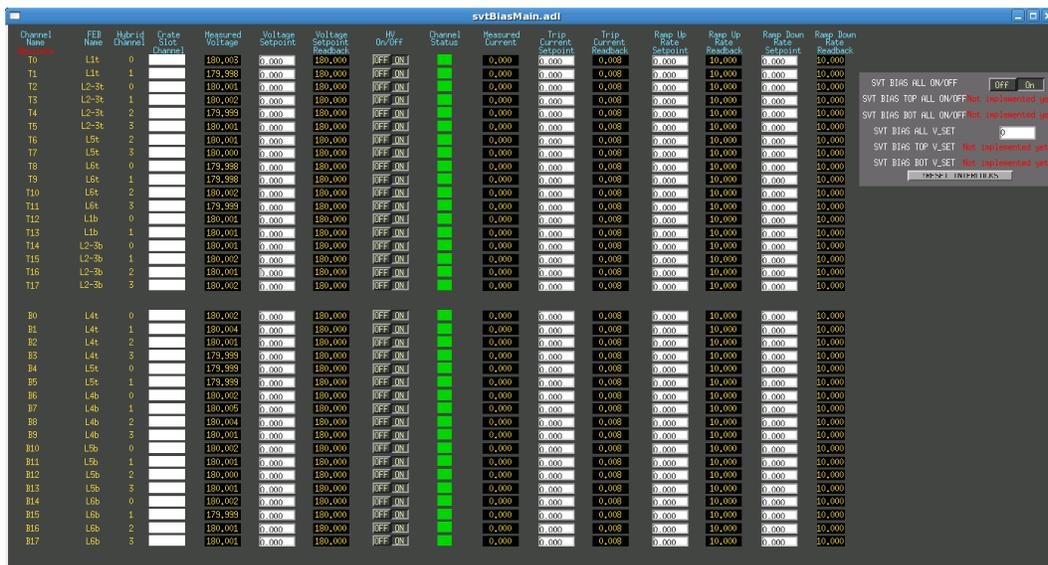

Figure 2.10: High voltage bias GUI.
- **High voltage bias GUI** in Fig. 2.10.
- (b) Find the SVT High Voltage Bias Control GUI (svtBiasMain.adl) shown in Fig. 2.10 (see 2.1 to restart if not running).
- (a) Find the SVT High Voltage Bias Control GUI shown in Fig. 2.10 (see 2.1 to restart if not running).